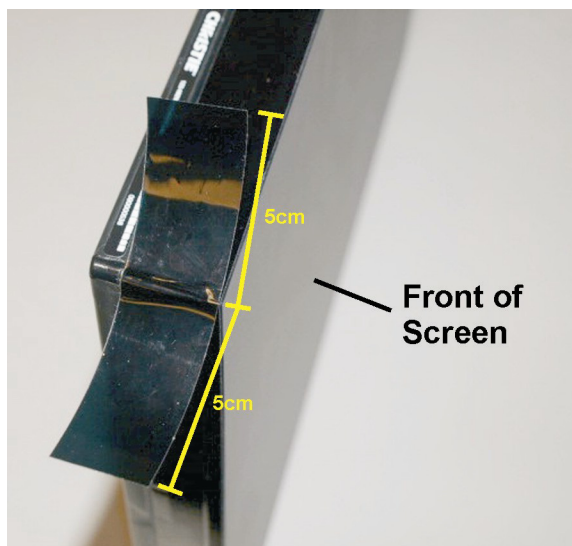

Figure 3 Align Tape to Front Edge of Screen
3. Align the tape to the existing tape using the front of the screen as a guideline. Ensure there is approximately 5cm of tape on either side of the corner (Figure 3).